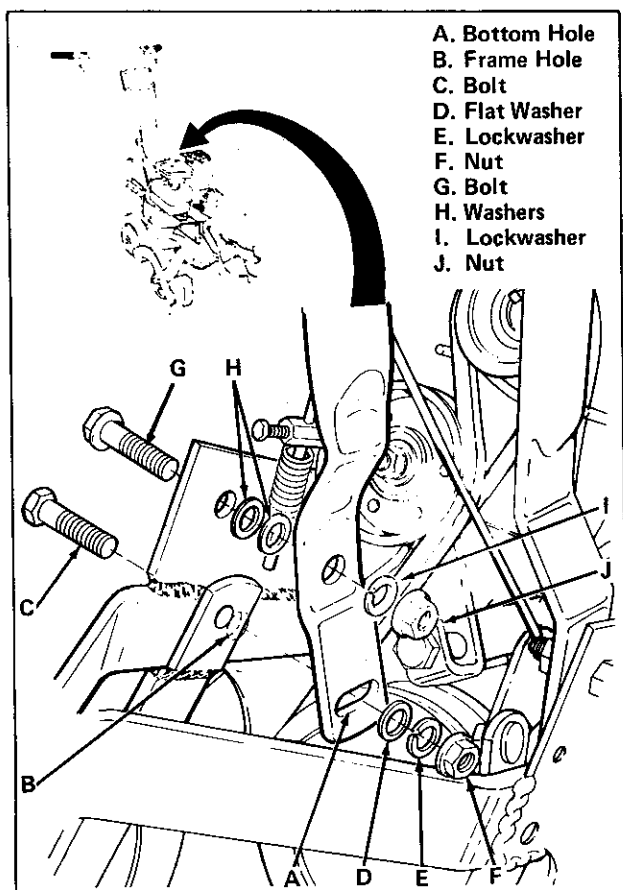

Figure 21. Left Handle Bar Assembly
2. Install left handle (the one with REVERSE clutch decal). Align bottom hole (item A, figure 21) of handle with hole in frame (item B) and insert bolt (item C) through frame and handle bar. Add flat washer (item D) and lockwasher (item E). Screw on nut (item F) only finger tight.